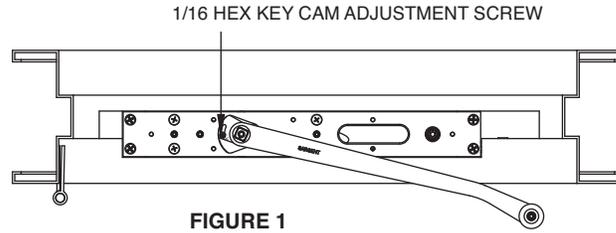

FIGURE 1
1. USING 1/8" ALLEN WRENCH, TURN LATCHING SPEED AND DOOR CLOSING SPEED VALVES (SEE FIGURE 1) CLOCKWISE UNTIL THEY STOP. DO NOT FORCE VALVES.
2. USING ADJUSTABLE WRENCH, ROTATE DOOR CLOSER SPINDLE (SEE FIGURE 1) 90° CLOCKWISE FOR LEFT HAND DOOR AND COUNTER CLOCKWISE FOR RIGHT HAND DOOR.
SWITCH ACTUATION POINT ADJUSTMENT (SEE FIGURE 1)